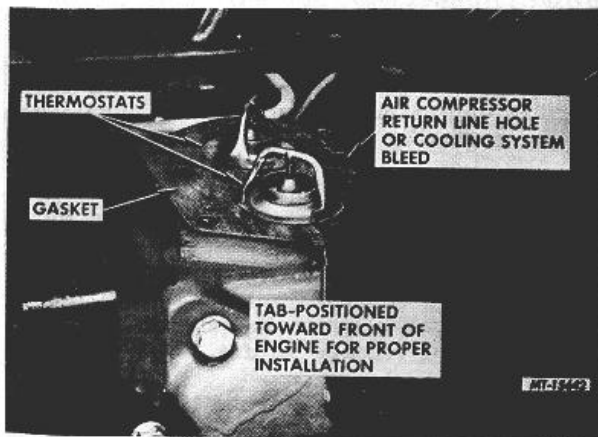

Fig. 185 Thermostat Installation
5. Position thermostats in engine front cover. Position thermostat housing gasket over thermostats making sure air compressor return line hole or cooling system bleeder hole is open (Fig. 185). Install thermostat housing and connect air compressor water return line (where used).